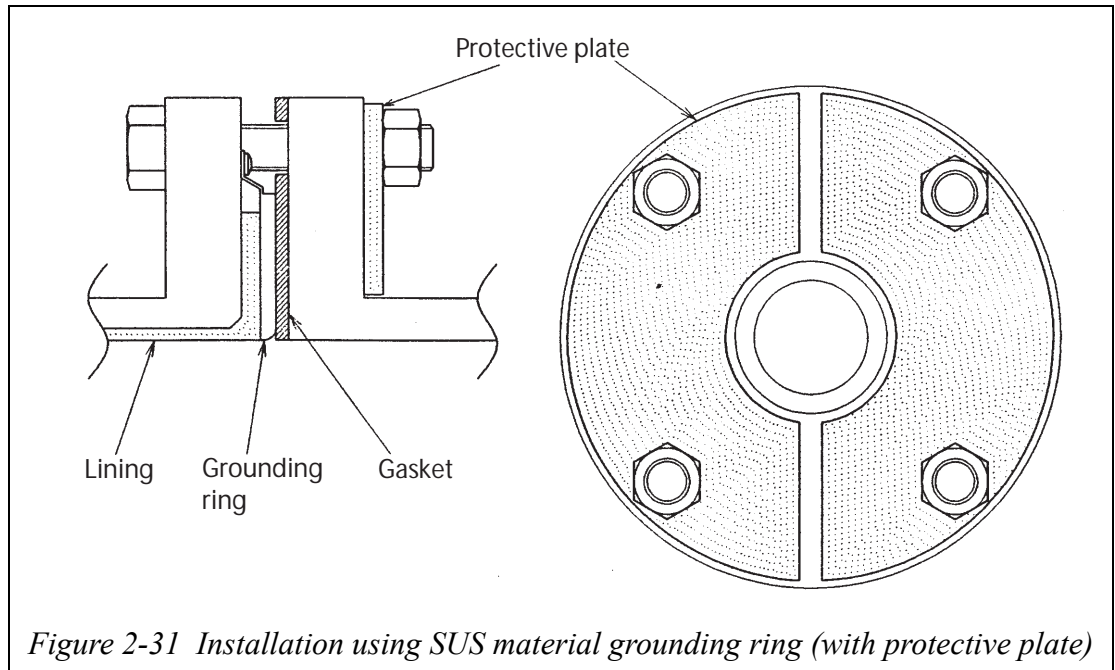

Figure 2-31 Installation using SUS material grounding ring (with protective plate)
- Protective plate: Use a protective plate if bolt tightening to the specified torque threatens to warp or damage the PVC pipe. The plate material must be metal (such as stainless steel at least 6 mm thick) that will not deform when the nuts are tightened. For the shape of the protective plate, see Figure 2-31.
Install the protective plate between the outer side of the PVC flange and the detector, as shown in Figure 2-31. The protective plate protects the PVC pipe from deformation or damage when secured at the specified torque. The torque level is unrelated to the pipe or grounding ring material. See Table 2-5 on page 2-26 for the appropriate torque. For the internal diameters of the gaskets, see Table 2-6 on page 2-28.
- Protective plate: A protective plate is required if tightening the bolts to the specified torque may deform or damage the PVC pipe. Use stainless or hard metal 1 mm thick or more. For the shape of the metal, see Figure 2-31.